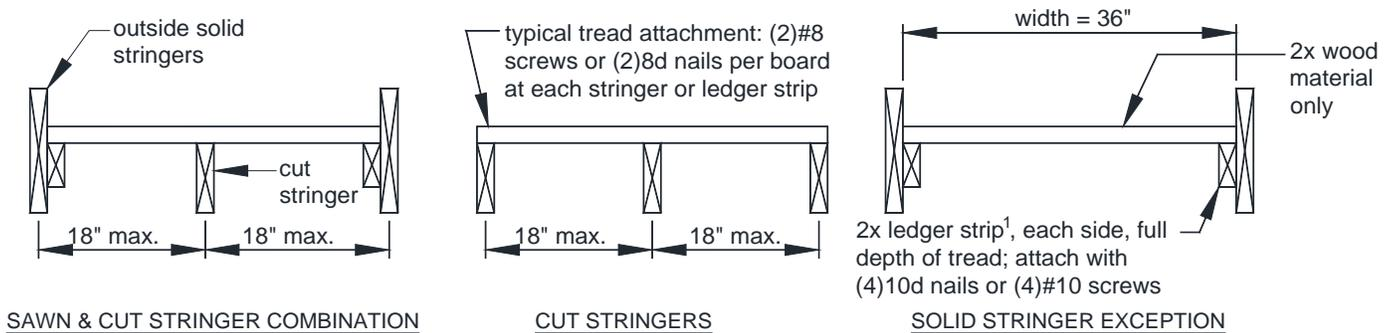

FIGURE 40: STRINGER TREADS
- Tread material shall be equivalent to the decking specified on Page 4 and attached in accordance with FIGURE 40. The span of plastic composites shall be per manufacturer and in some cases may be less than 18 inches specified in FIGURE 40.
- Stairs constructed using the solid stringer exception shall have treads constructed of 2x wood material only; see FIGURE 40.